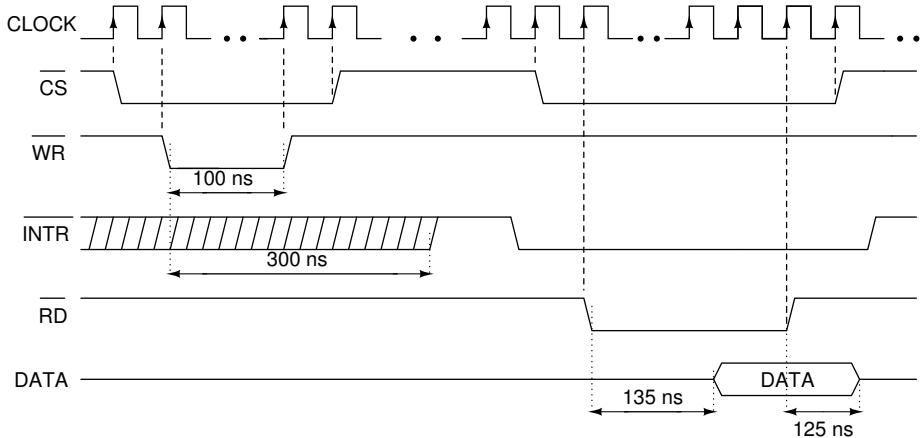

Figure 4: ADC timing diagram
- $\overline{RD}$ (Read): After falling edge on  $\overline{RD}$ , we can read the converted data after some delay. Refer Fig.4.
- $\overline{INTR}$ (Interrupt): Falling edge of this signal indicates that the conversion is completed. Refer Fig.4.
The timing diagram for the interfacing of the ADC is shown in Fig.4. In the diagram four timing constraints are shown.